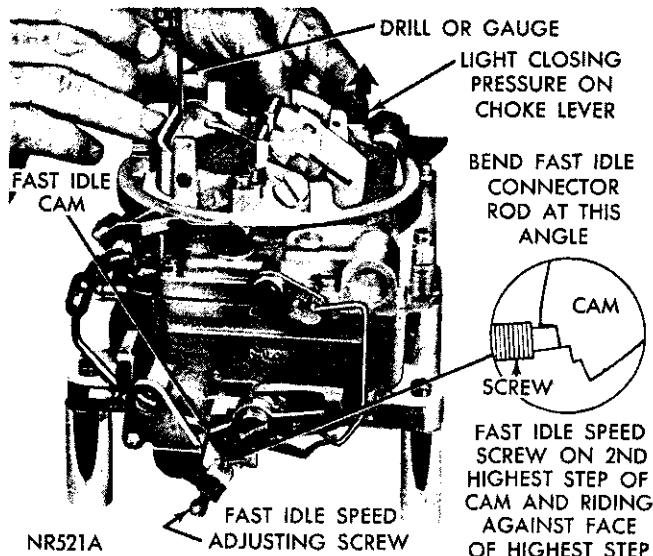

Fig. 13—Fast Idle Cam Position Adjustment
(1) With fast idle speed adjusting screw contacting second highest speed step on fast idle cam, move choke valve toward closed position with light pressure on choke shaft lever.
(2) Insert specified drill (refer to Specifications), between choke valve and wall of air horn (Fig. 13). An adjustment will be necessary if a slight drag is not obtained as the drill is being removed.
(3) To adjust, bend fast idle connector rod at angle, using Tool T-109-213 until correct valve opening has been obtained. (Fig. 13).